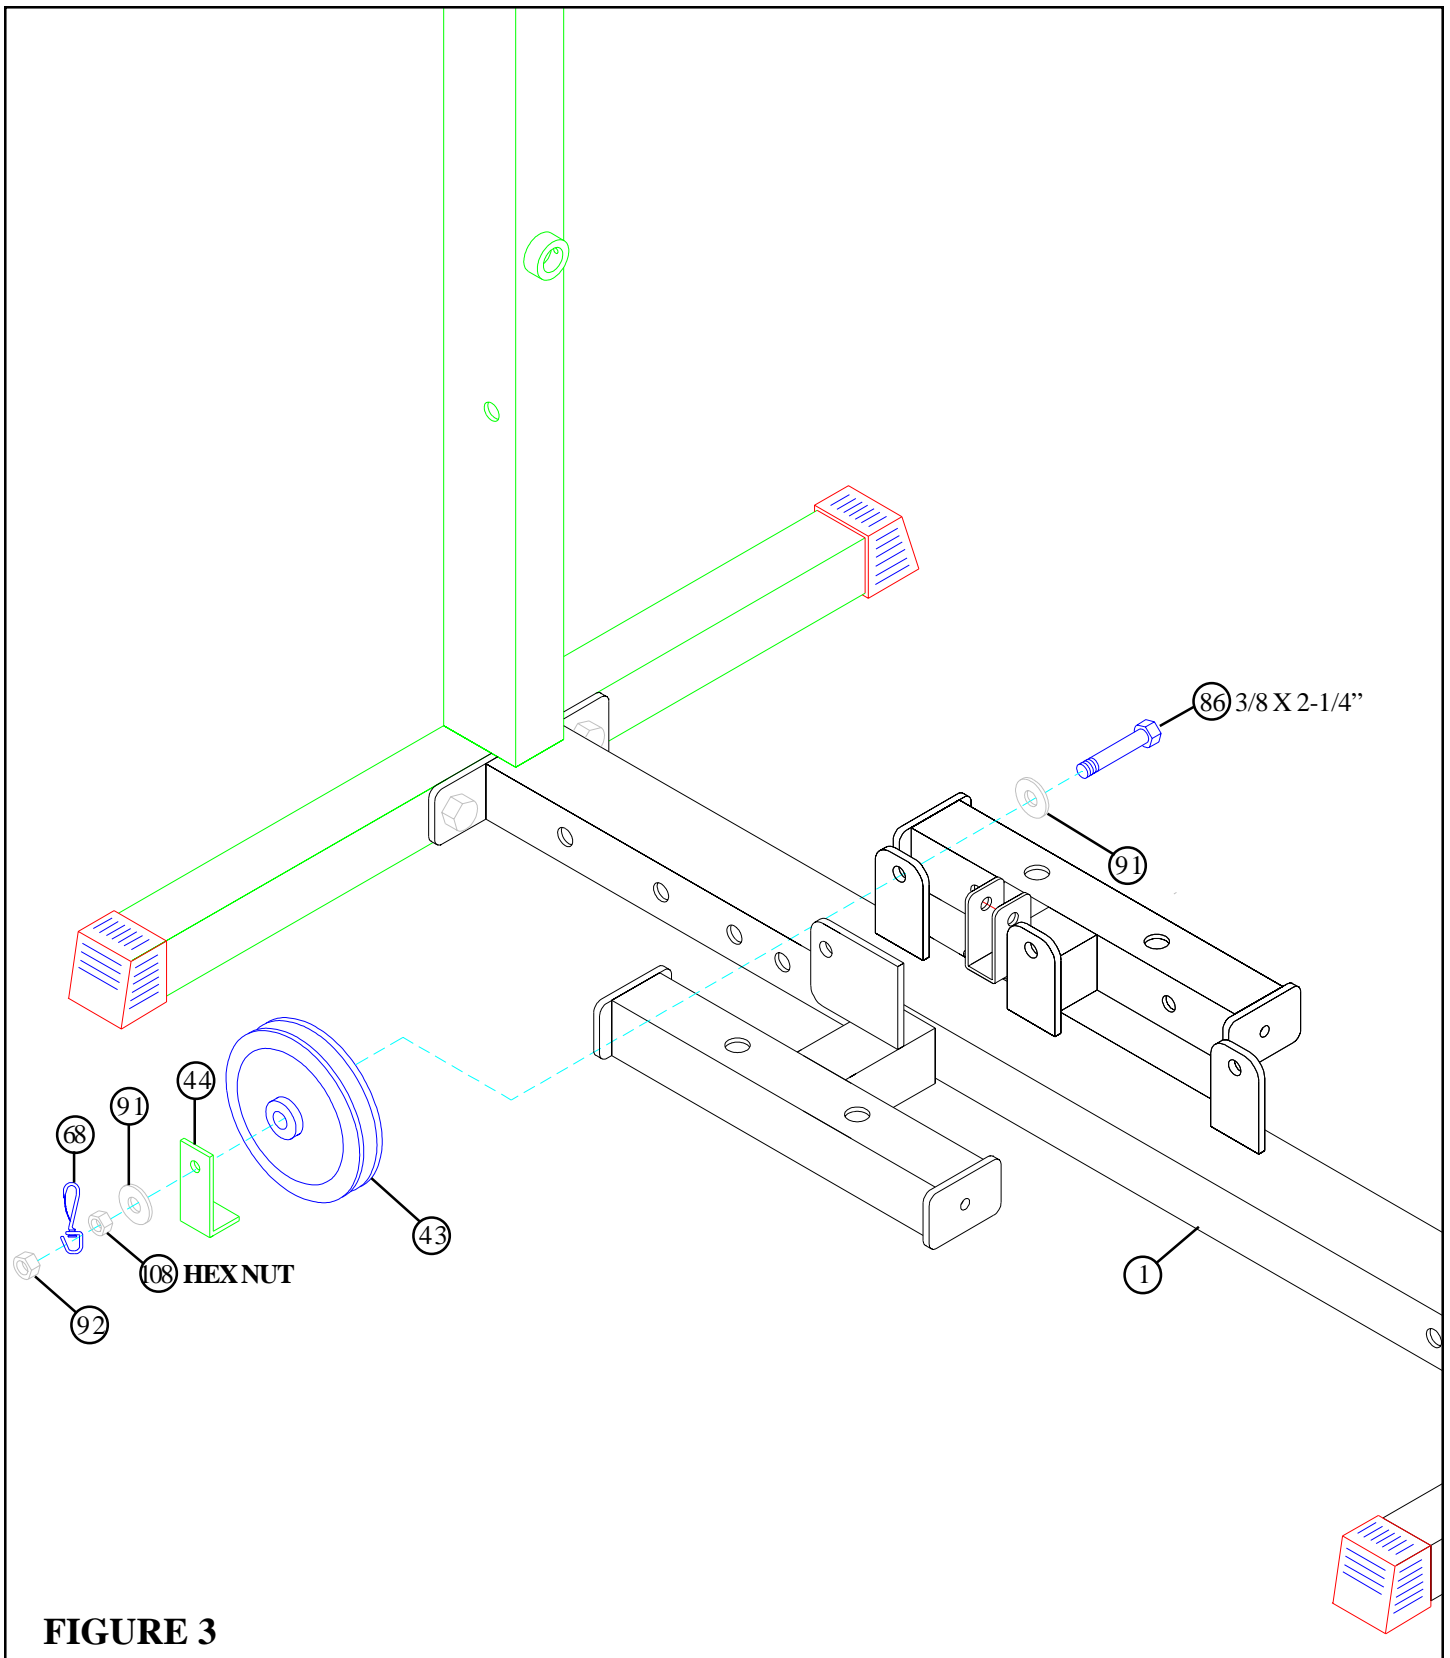

FIGURE 3
- **SECURELY** assemble one 4-1/2" PULLEY (43) to the upper flat on the BASE (1) using one 3/8 X 2-1/4" BOLT (86), two 3/8" WASHERS (91), one 2-7/8" L-BRACKET (44), one **3/8" HEX NUT (108)**, one SWIVEL SNAP (68) and one 3/8" LOCK NUT (92). See FIGURE 3.